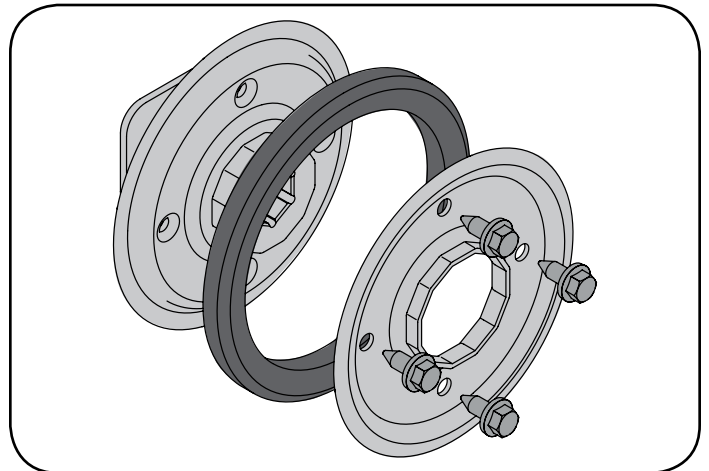

Figure 62
1. Remove the four screws which secure the friction wheel's side plates together. See Figure 62.